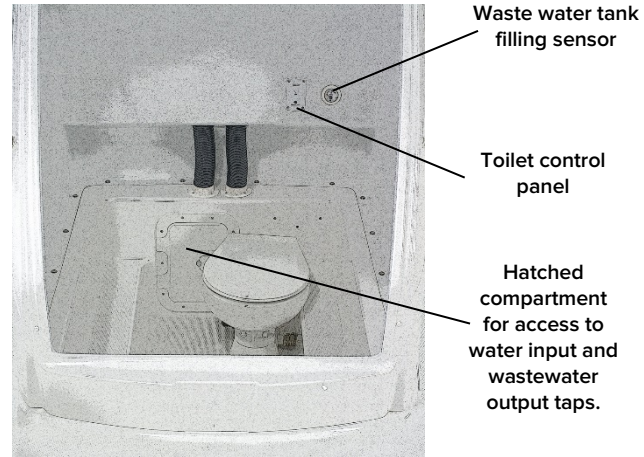
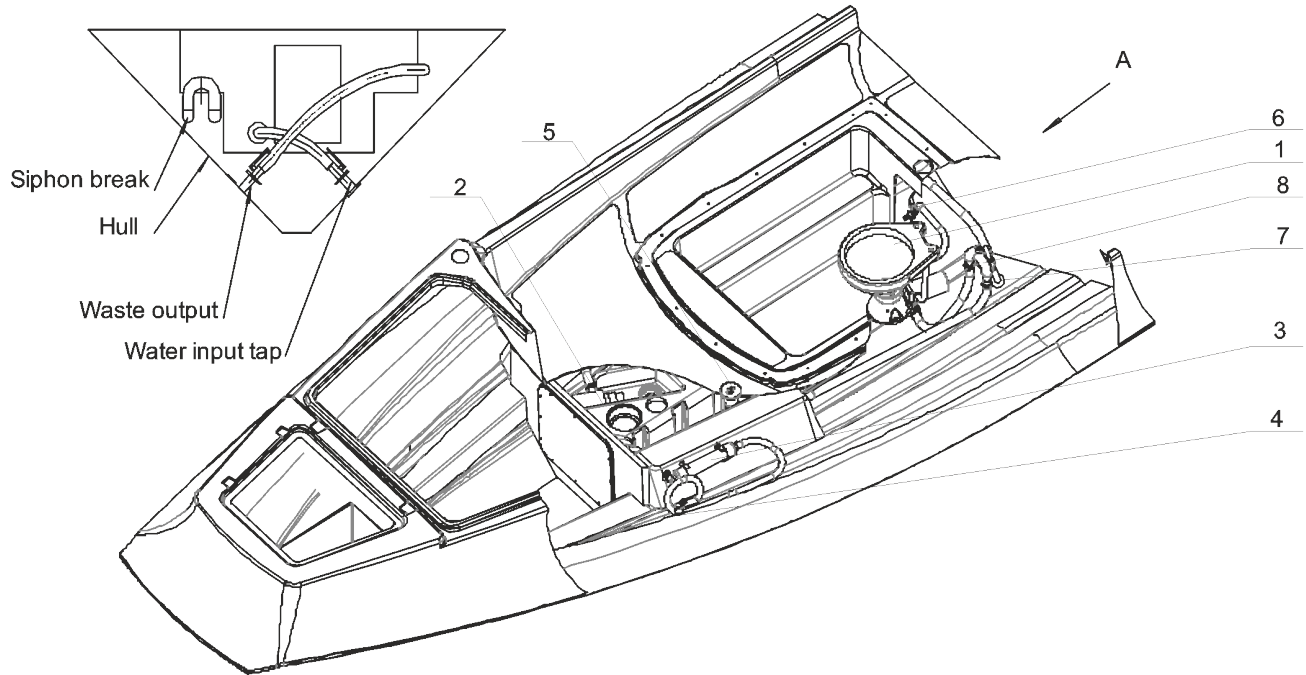

Fig. 35 Toilet.
Fig. 36. Waste water system.
*Waste water system of a boat* (see fig. 36 on the previous page):
Before using a toilet, you should open water input tap (fig. 36, pos. 6). If you in offshore where the discharge of biodegradable wastewater in permitted, open overboard discharge valve. (fig. 36, pos. 7). Both taps are located in the compartment behind the toilet (fig. 35).
To wash off the toilet push and release the button on the toilet control panel (fig. 35).
The filling sensor (fig. 35) of wastewater tank (fig. 36, pos. 2) is located near the toilet control panel. The discharge of wastewater tank can be done by sewage truck at a port. Connect the fitting of the receiving hose of the sewage truck with pump-out deck fitting (fig. 36, pos. 5) located on the deck, next to the steering console to do so.